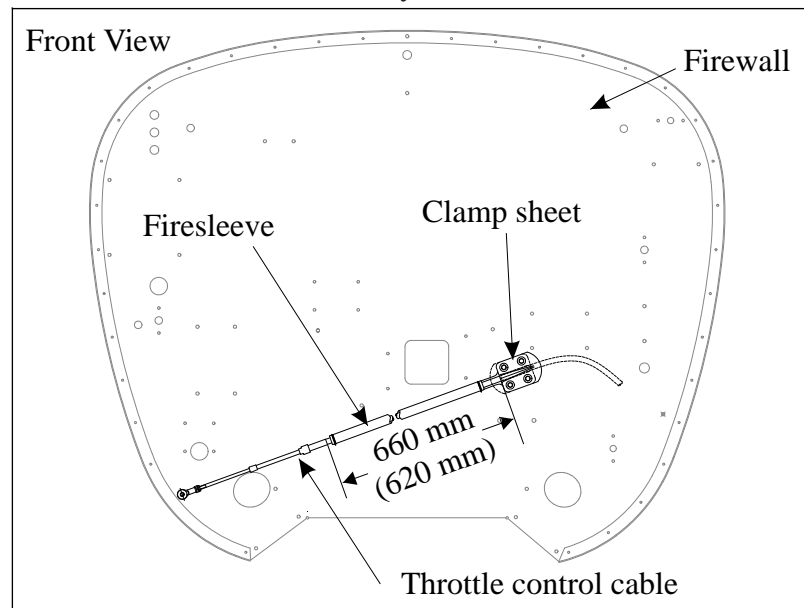

Figure 2 Firesleeve Length
- 11 Remove 4 bolts and firewall sealant of the clamp sheets (Figure 2) positioned at the firewall breakthrough.
- 1 Install throttle control cable according to the prior marked routing. Ensure distance between clamp sheet at the firewall and clamp block is 660 mm (refer to Figure 2) for standard Gomolzig exhaust systems or 620 mm for optional Sky Dynamics or Chabord exhaust systems.
- 6 Install fire sleeve to the throttle control cable and secure with safety wires at both ends (refer to Figure 2).